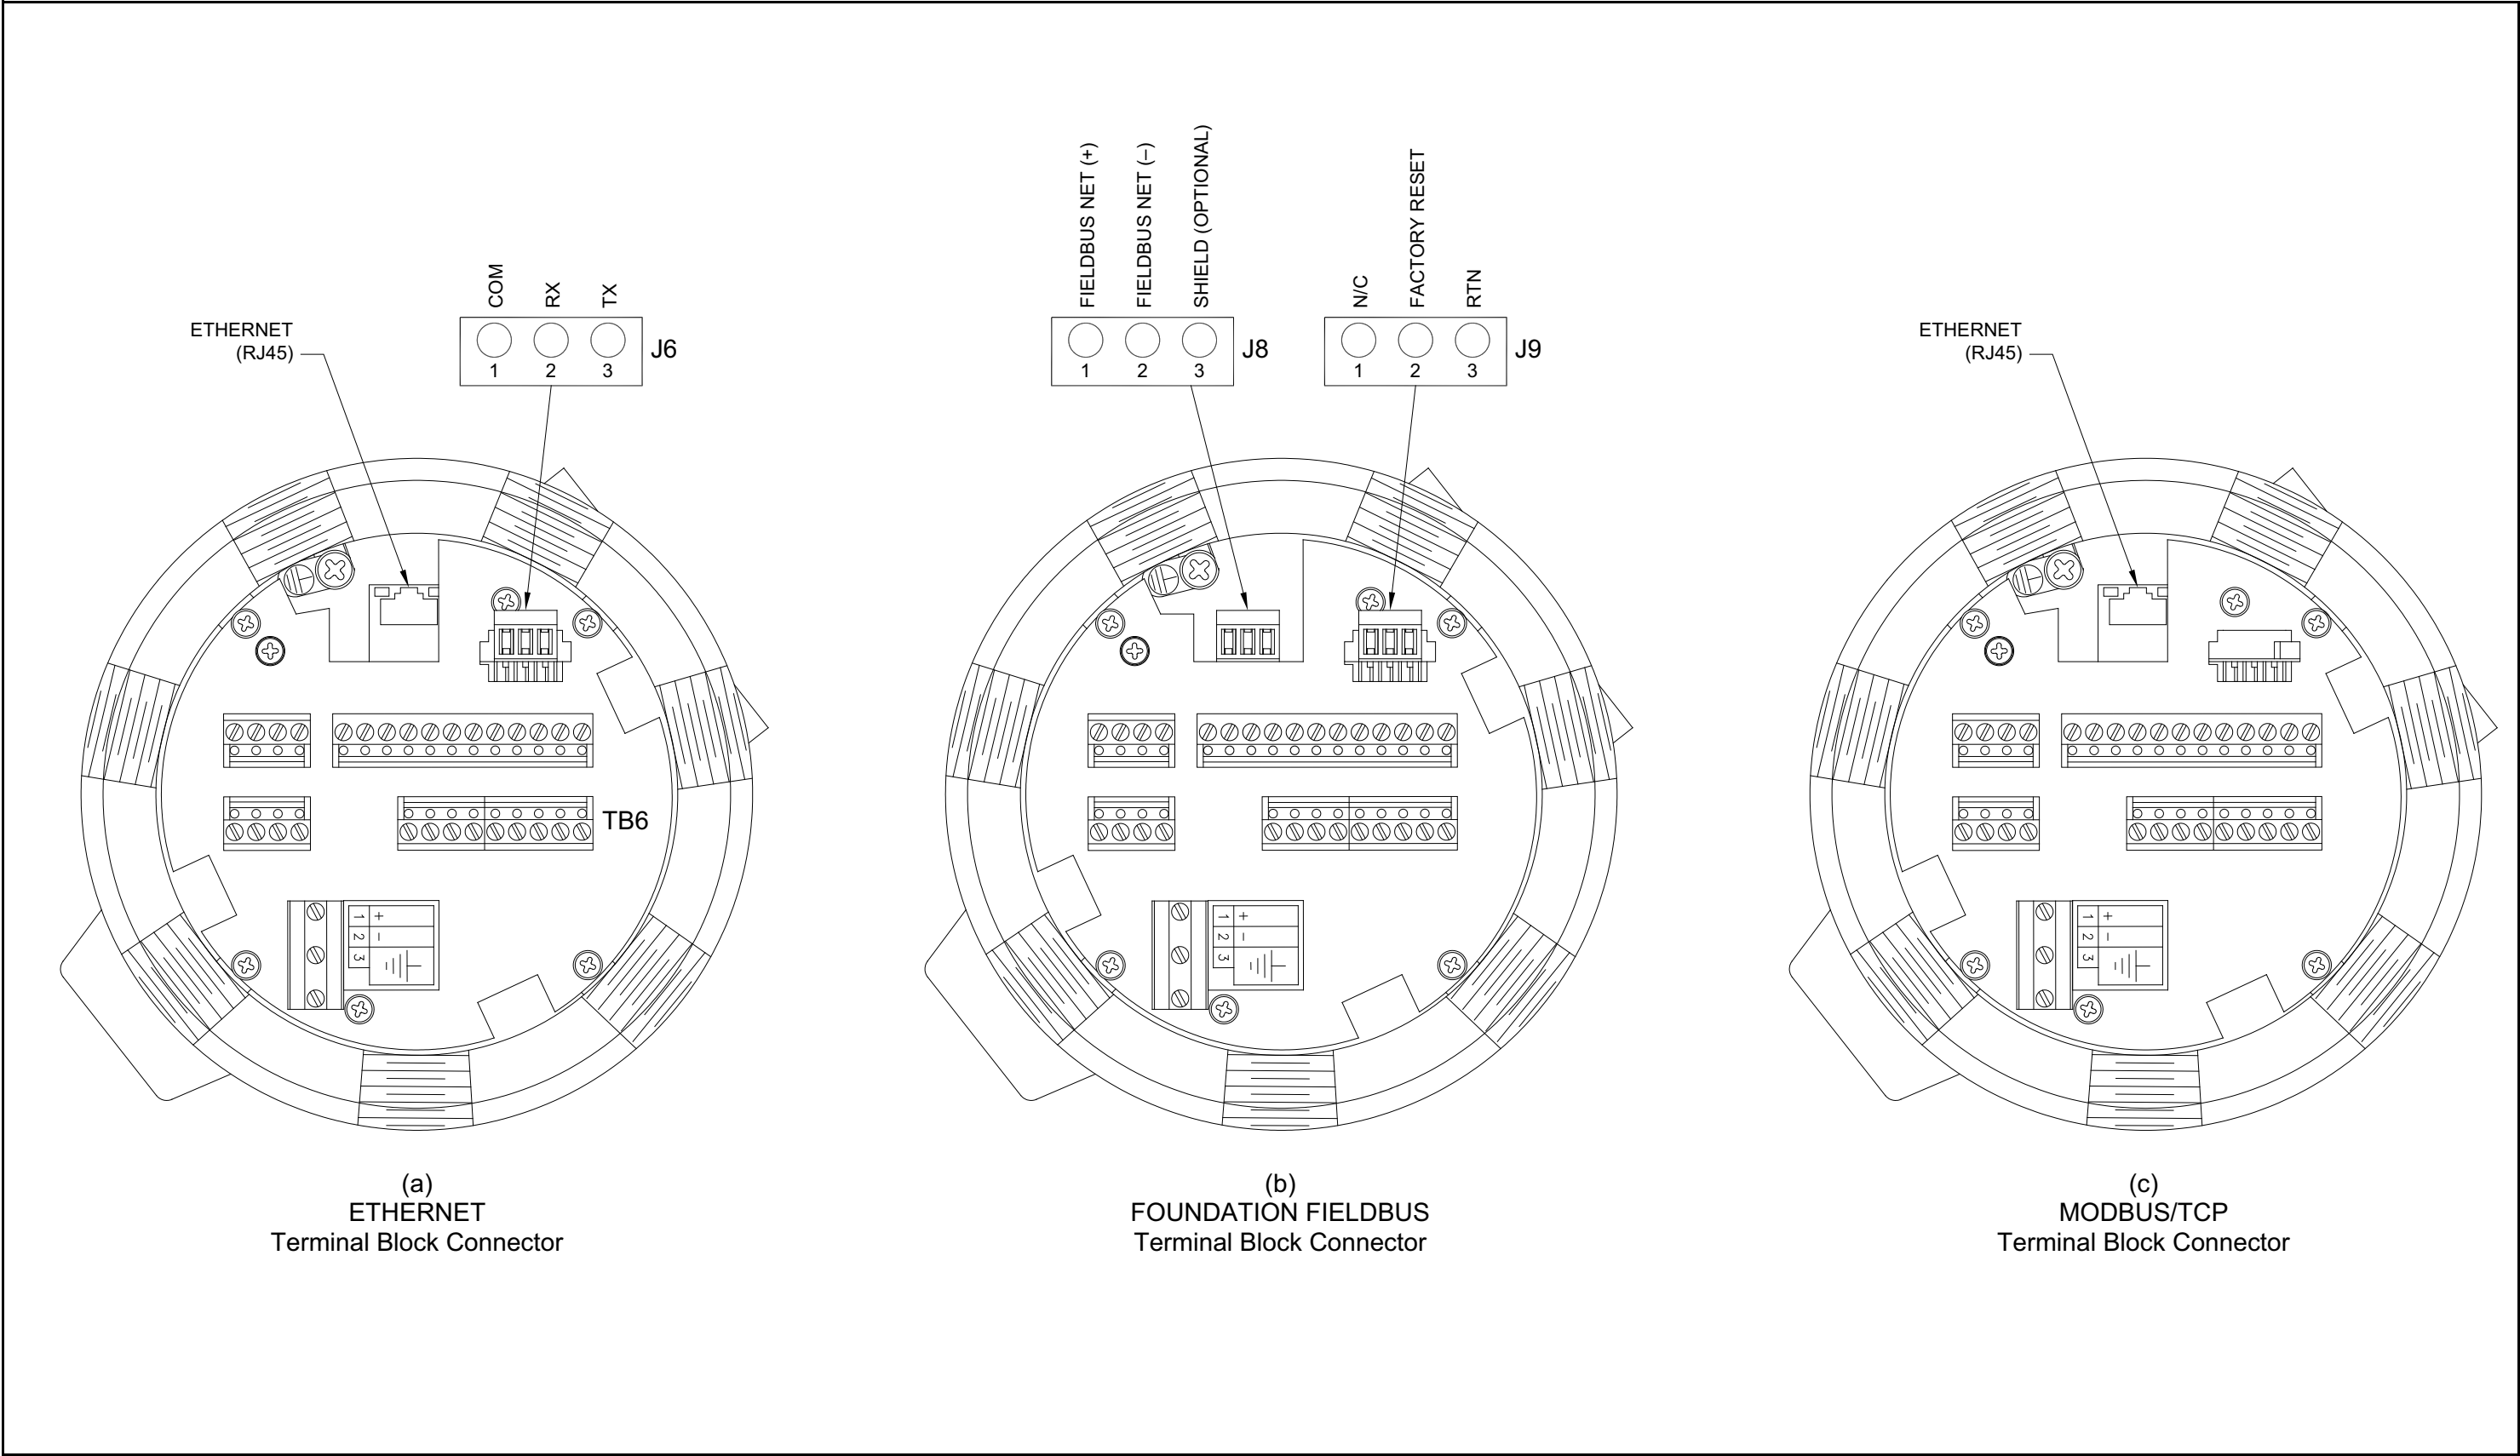

Figure 11: Ethernet, Foundation Fieldbus and MODBUS/TCP Terminal Block Connections
Customers can also use a modified XGF868i that provides a MODBUS/TCP interface to communicate to an internal network. An optional MODBUS/TCP card with a unique MAC (IP) address (installed only in slot 2) includes an RJ45 connector. To connect the MODBUS/TCP-enabled XGF868i to the network, insert the jack of an RJ45 cable into the RJ45 connector, route the cable through one of the conduit holes using an appropriate cable clamp, and wire the other end of the cable to the Ethernet network according to the manufacturer's instructions. See Figure 11 on page 26.
A modified XGF868i can use the Ethernet interface to communicate to a local area network. An optional Ethernet card with a unique MAC (IP) address (installed only in slot 2) includes an RJ45 connector. To connect the Ethernet-enabled XGF868i to the network, insert the jack of an RJ45 cable into the RJ45 connector, route the cable through one of the conduit holes using an appropriate cable clamp, and wire the other end of the cable to the Ethernet network according to the manufacturer's instructions. An external connection is required between the Ethernet option card and the XGF868i's RS232 connector, as shown in Table 3 and Figure 11 on page 26.
To connect the Foundation Fieldbus interface to the XGF868i, make the network connections at J8, pins 1 and 2, as shown in drawing Y of Figure 11 on page 26. As an option, you can connect a shield to J8 pin 3, depending on the network wiring.